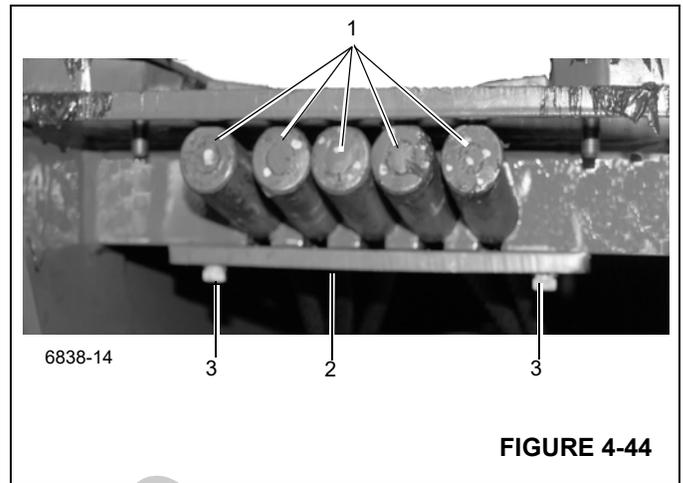

FIGURE 4-44
- 14. Place the five extend cable dead ends (1), (Figure 4-44) in the slots at the top of the Fly Section and secure them
with the extend cable keeper plate (2), (Figure 4-44) and two bolts (3), (Figure 4-44).